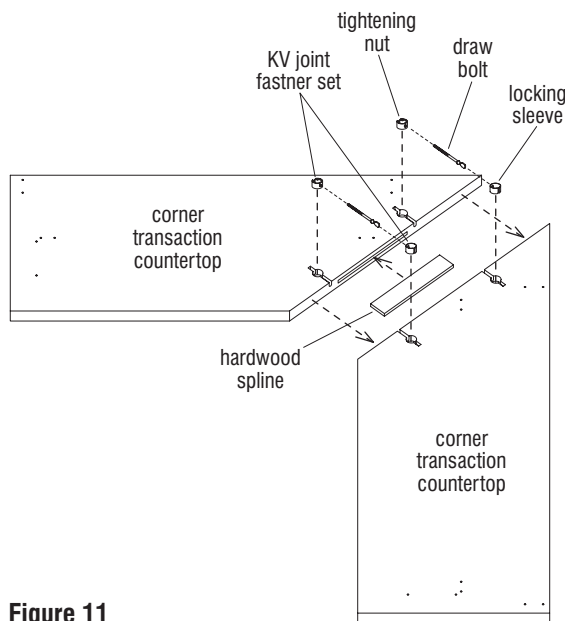

Figure 11
1. Place the two corner counter surfaces to be joined upside down on a soft protective surface. Position the surfaces as illustrated, then locate and identify the KV joint fastener components from the hardware pack (Figure 11).
2. Center the hardwood spline into the routed slot in one corner top to be joined. Press the two tops together, aligning the hardwood spline. Check to make sure the tops join together completely with the spline in place. If they do not, sand the spline if necessary or adjust its location in the slot (Figure 11).
3. Assemble KV fasteners by first twisting a draw bolt into each tightening nut a few turns, then press each pair into a $\frac{7}{8}$ " hole and slot in the underside of the transaction countertop surfaces to be joined. The flat-end of each draw bolt will be visible in the $\frac{7}{8}$ " hole on one side of the units being joined. One at a time, position each locking sleeve as illustrated and insert locking sleeves into the $\frac{7}{8}$ " holes so that the slotted sleeve engages the rounded collar on the bolt (Figure 11).
4. Tighten the nut with a tightening tool or a nail-set. Check the front and back edges, and more importantly the top side of the joint for proper alignment. The top-side joint should be smooth and level with no gaps. Adjust as necessary to achieve a "seamless" look (Figure 11).